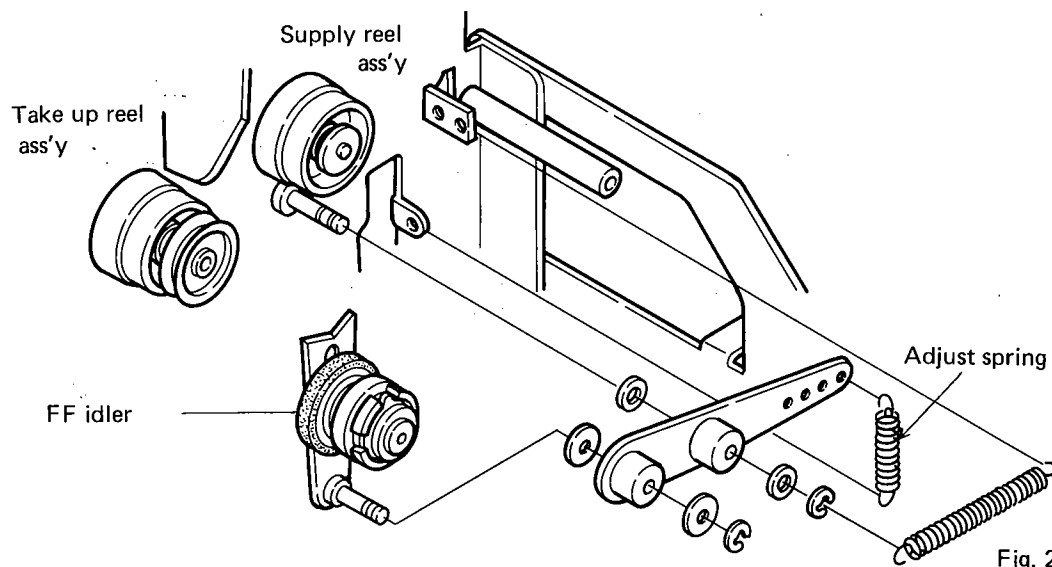

Fig. 27
**10.5 FF/REW TRANSMISSION (Photo 7, 8, Fig. 27)**
2. If adjusting the spring does not correct the problem, replace the FF idler. (Fig. 27)